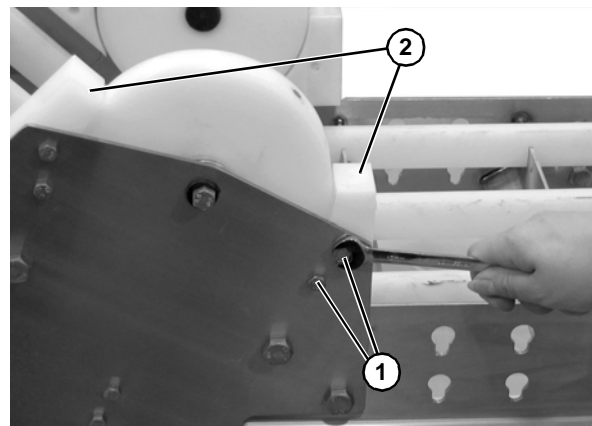

Figure 66
- Remove two cap screws (**Figure 66, item 1**) on each side of the knuckle and remove the hold down roller guards (**Figure 66, item 2**). Repeat on opposite side of the conveyor.